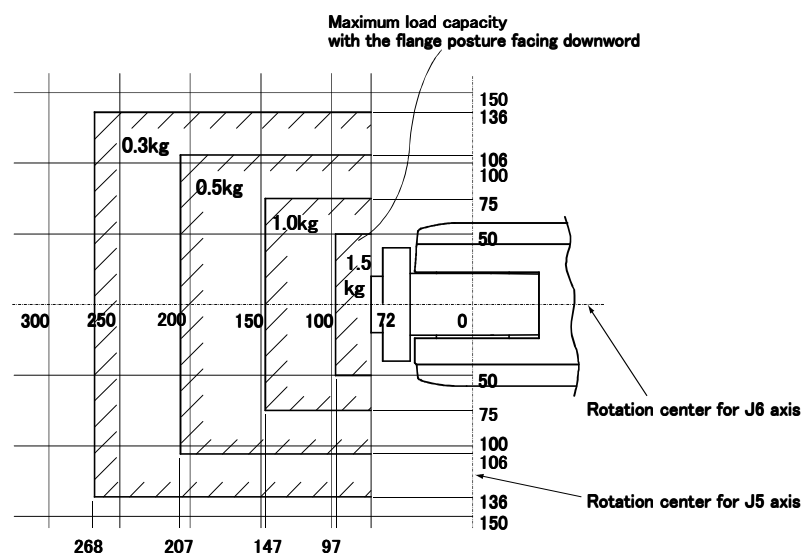
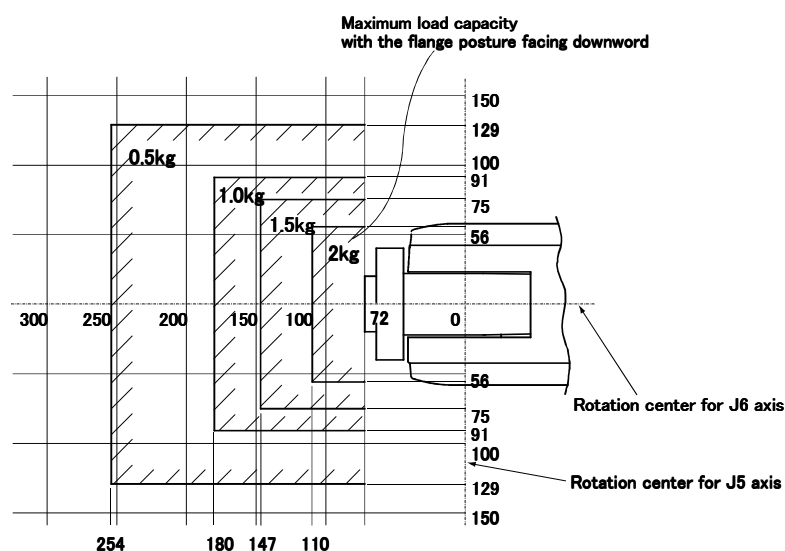

Fig.2-2 : Position of center of gravity for loads (for loads with comparatively small volume) : RV-1A/1AC-SB
Fig.2-3 : Position of center of gravity for loads (for loads with comparatively small volume) : RV-2AJ/2AJC-SB
- (1) The tooling should have the value less or equal than the smaller of the tolerable inertia and the tolerable moment found in Page 5, "Table 2-1 : Tab Standard specifications of robot".
- (2) Fig. 2-2 and Fig. 2-3 shows the distribution dimensions for the center of gravity in the case where the volume of the load is relatively small. Use this figure as a reference when designing the tooling.
- (3) When the load is not mass, but force, you should design the tooling so that it does not exceed the value for allowable moment described in Page 5, "Table 2-1 : Tab Standard specifications of robot".